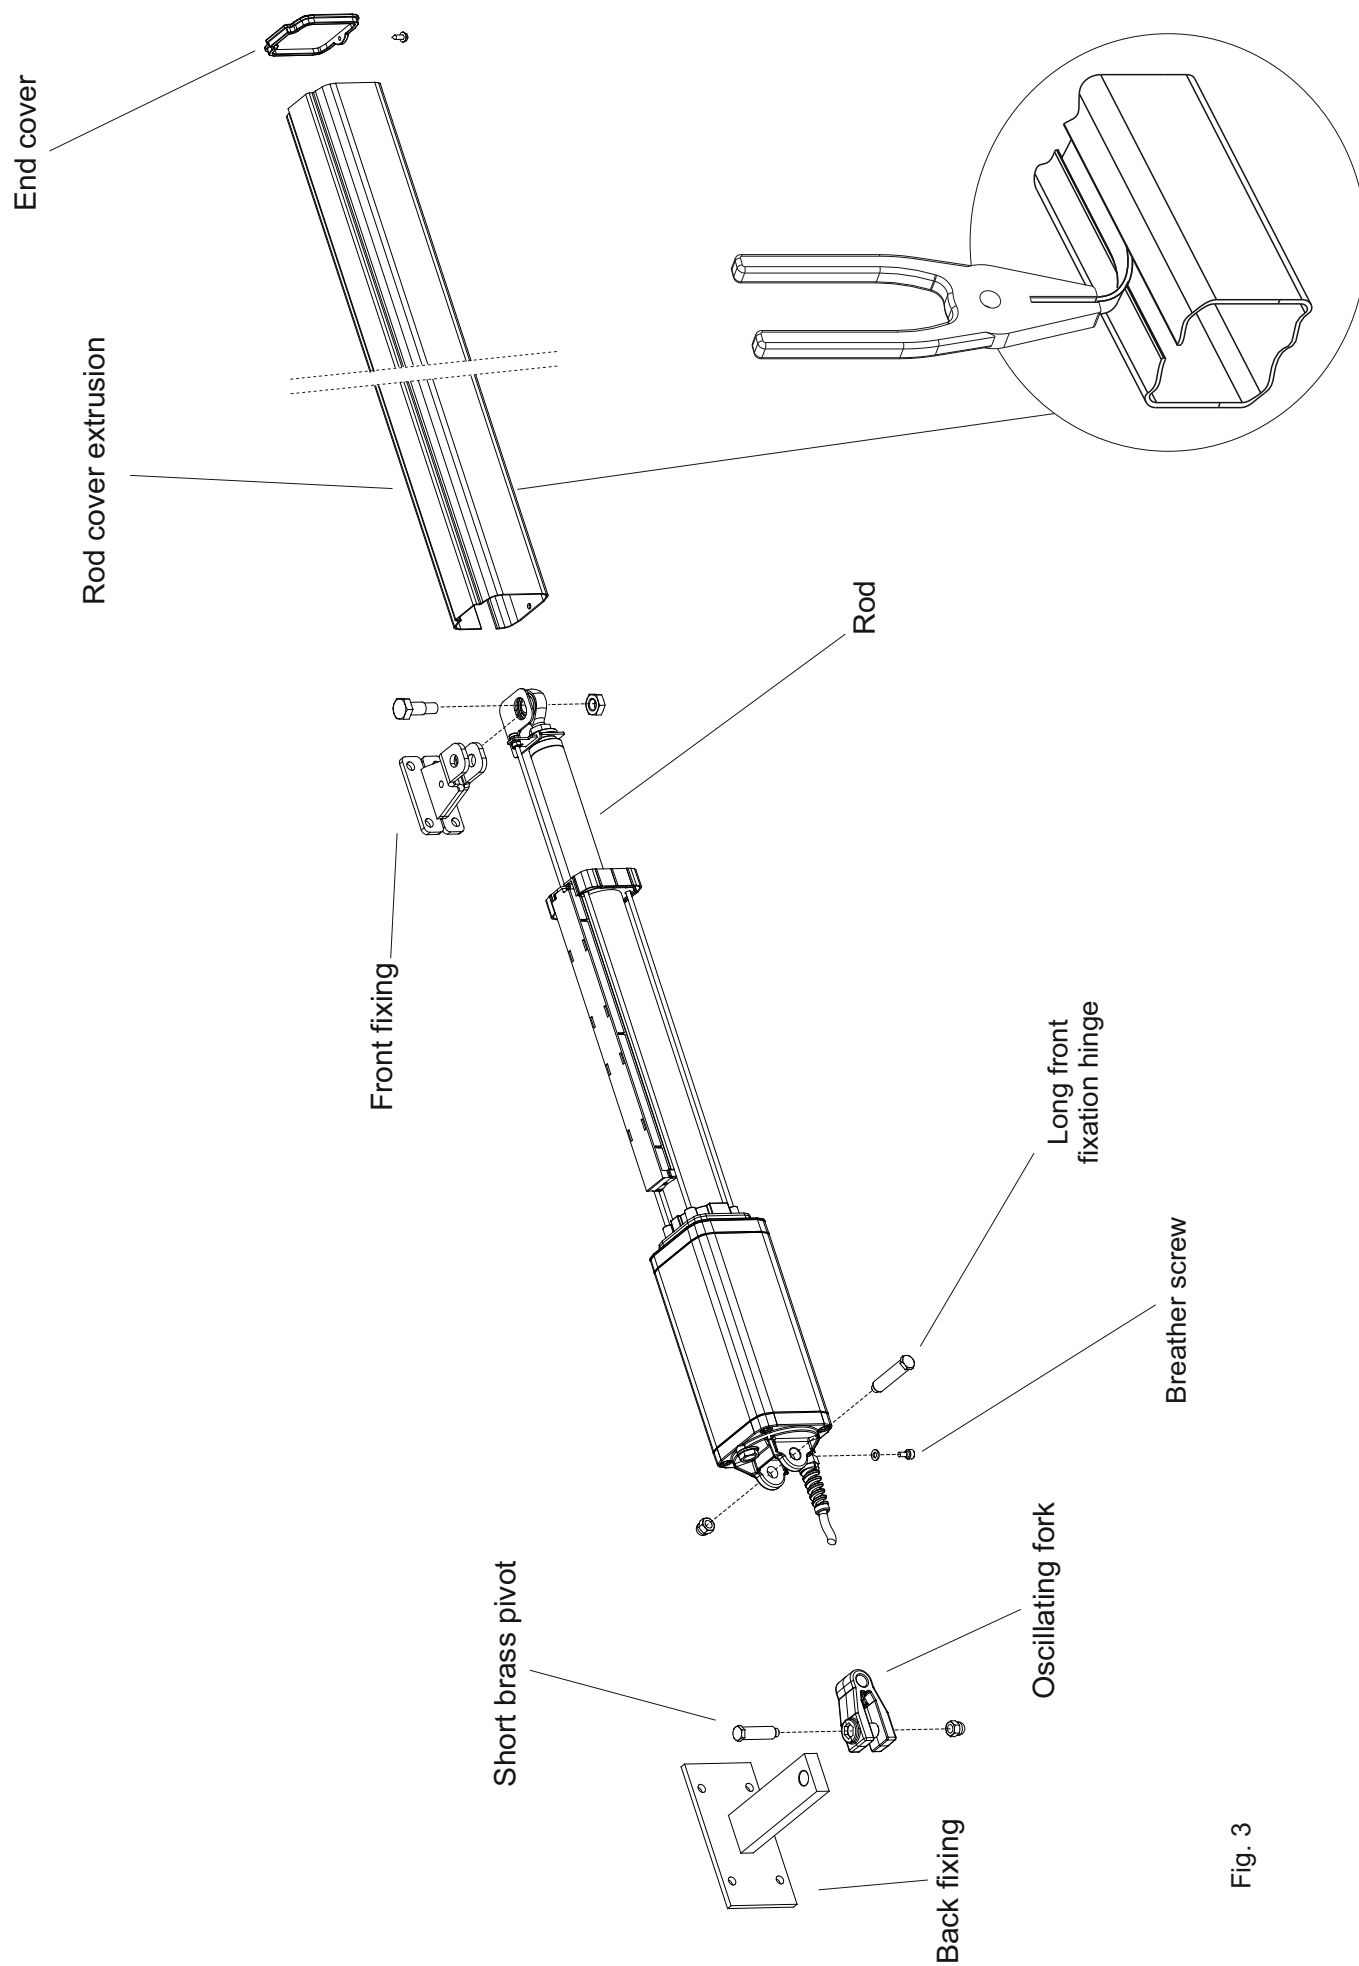

Fig. 3
- Open the package carefully, paying attention to not lose the parts reported in fig.3.